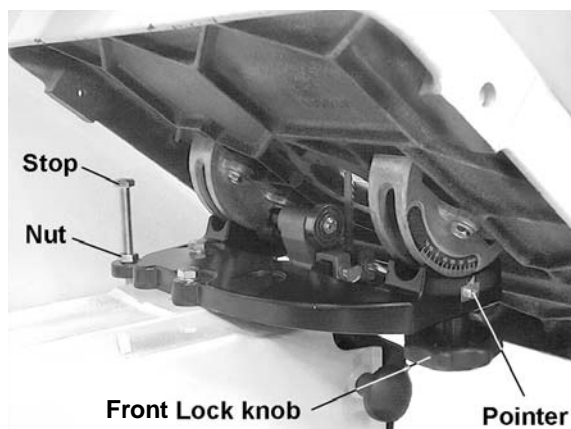

Figure 14
1. Loosen the front and rear lock knobs (Figure 14).
3. Tighten two lock knobs (Figure 14).
**Note:** Table stop (Figure 14) must be adjusted downward to allow the table tilt to the left.
2. Loosen lock knobs (Figure 14) and tilt table left until it rests against the table stop.
5. Loosen jam nut and turn table stop (Figure 14) left or right to raise or lower the stop. Tighten jam nut to hold table stop in place.